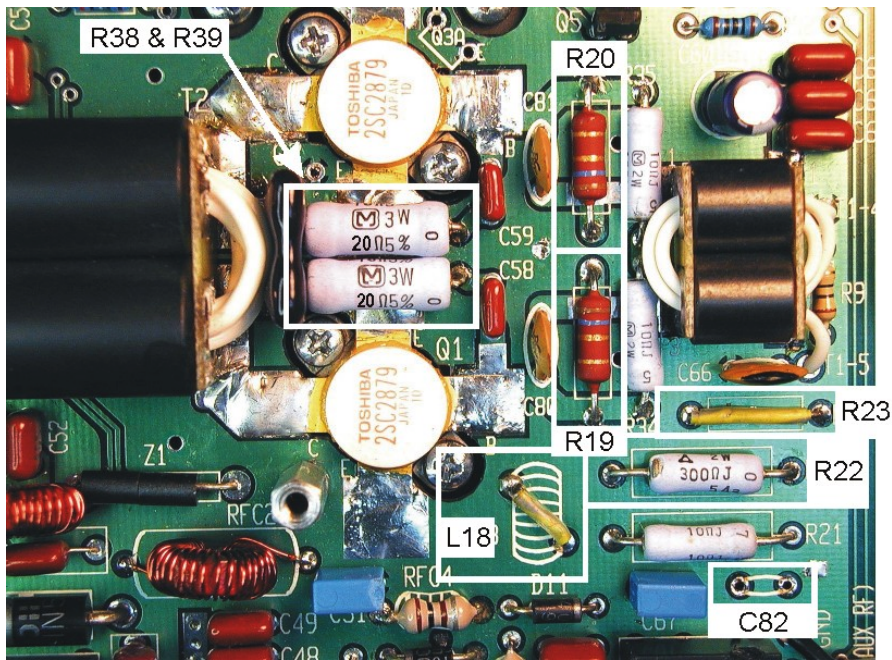

Figure 1
- Remove the KPA100 PC board from the heatsink as follows: (1) remove the seven shield standoffs; (2) remove the six screws holding transistors Q1-Q4 to the heat sink; (3) remove the three screws holding the rear panel to the heatsink; (4) desolder the speaker wires at the speaker; (5) lift the board off the heat sink.
**Refer to the Figure 1 (on the back of this sheet) during the remaining steps.**